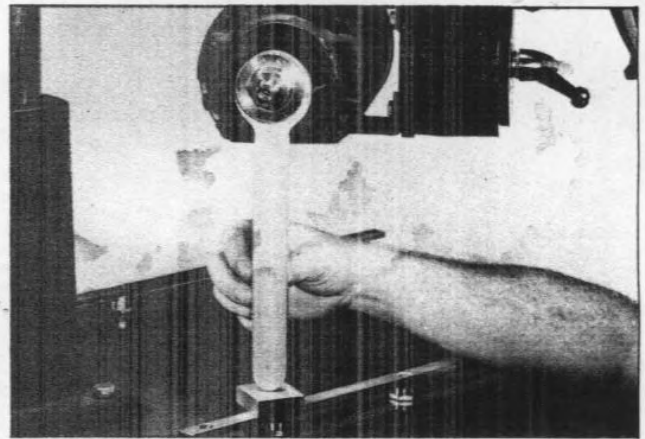

Fig. 11
3. Rotate track-arm, loosen rip lock and move cuttinghead to the rear of the track until the wrench is over the rear leveling screw, as shown in Fig. 11.
4. Place a feeler gage (block of metal or hardwood) over the rear leveling screw. Raise or lower the cuttinghead until the end of the wrench just touches the feeler gage, as shown in Fig. 11. NOTE: The cuttinghead should not be raised or lowered any further until the leveling operation is completed.